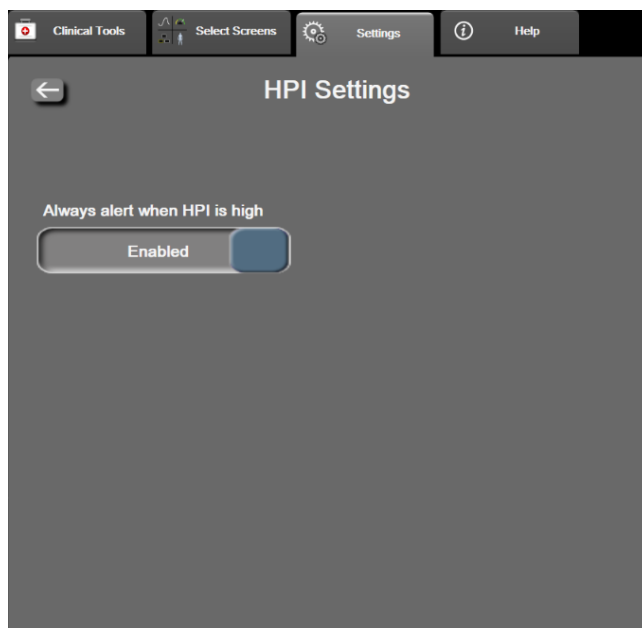

Figure 14-4: Parameter settings - Hypotension Prediction Index
5. Touch the **Always alert when HPI is high** toggle button to switch to **Disabled**. See Figure 14-4 on page 242.